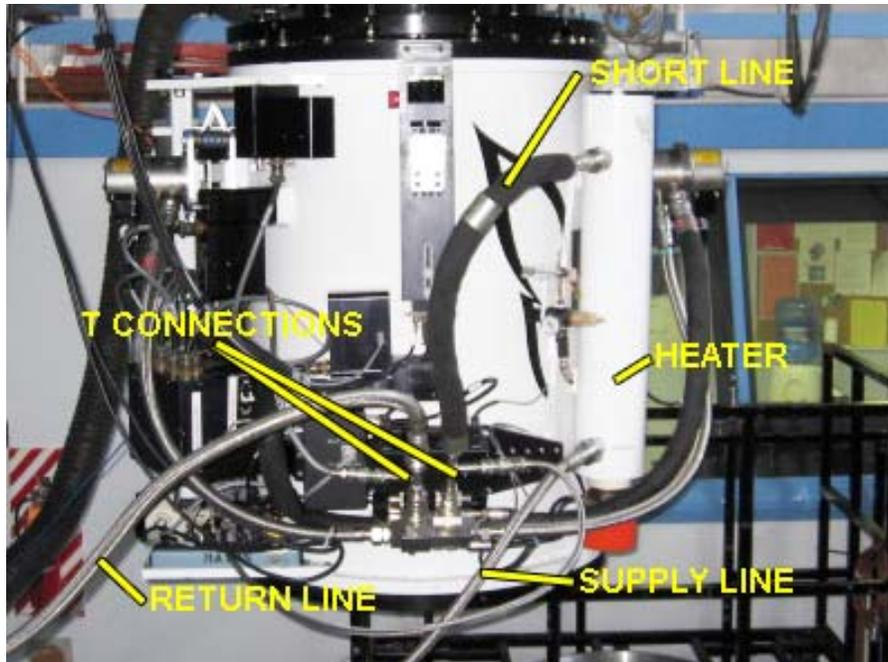

Figure 1: Phoenix, showing the He line connections.
3. High pressure He lines: Check that both of the He compressors in the outdoor shed are plumbed in parallel to the Y-block manifold and that the output of this manifold is routed into the building and hooked into the building He lines. The instrument He lines are hooked up to the two standpipes on the opposite side of the basement room (next to the elevator shaft). The two T-connections (which have small lines going to the differential pressure sensor) hook directly into the manifold on the instrument. The Return (large) hose then connects to the T-connection. The Supply line goes to the bottom connection on the cylindrical heater, and the short line goes between the connector on the top of the heater to the supply T-connection. Refer to Figure 1.